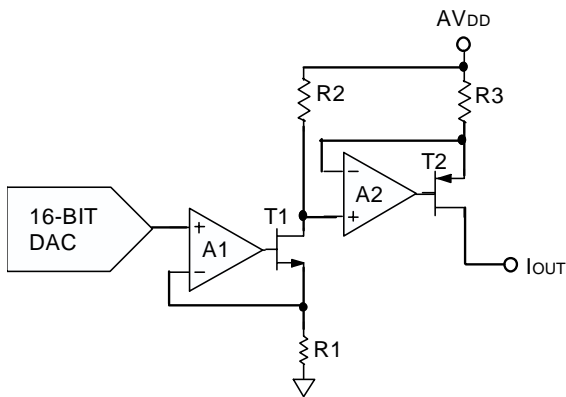

Figure 34. Voltage to Current conversion circuitry
The voltage output from the DAC core is converted to a current (see diagram, Figure 34) which is then mirrored to the supply rail so that the application simply sees a current source output with respect to ground.
- 1) The Voltage at  $I_{OUT}$  attempts to rise above the compliance range, due to an open-loop circuit or insufficient power supply voltage. The  $I_{OUT}$  current is controlled by a PMOS transistor and internal amplifier as shown in Figure 34. The internal circuitry that develops the fault output avoids using a comparator with “window limits” since this would require an actual output error before the FAULT output becomes active. Instead, the signal is generated when the internal amplifier in the output stage has less than approximately one volt of remaining drive capability (when the gate of the output PMOS transistor nearly reaches ground). Thus the FAULT output activates slightly before the compliance limit is reached. Since the comparison is made within the feedback loop of the output amplifier, the output accuracy is maintained by its open-loop gain and an output error does not occur before the FAULT output becomes active.